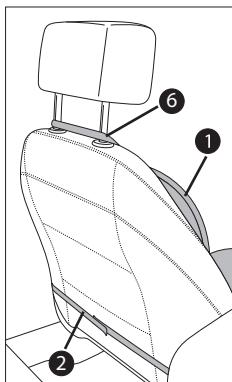

Fig. 2
- If the backrest is extremely high or wide, secure the seat cushion as shown in Fig. 2.
- If your vehicle is equipped with side airbags, please ensure that the securing straps 6 are only pulled over the head restraint supports and not over the top part of the car seat when securing the seat cushion 1 (see Fig. 2). Otherwise the side airbag may be affected!